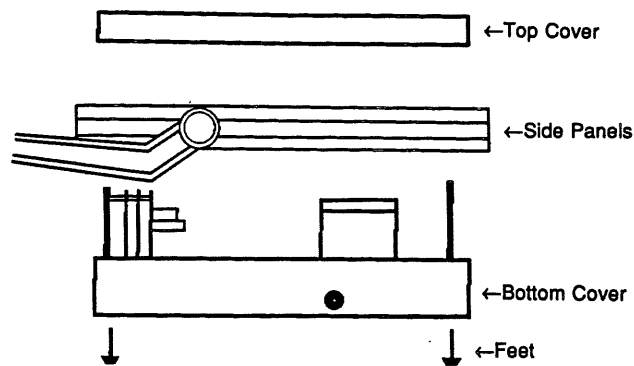

Figure 3-2. Cover/Panel Removal
- 2) Turn the TMA802 upside down and remove four screws that secure the footpads (see Figure 3-2).